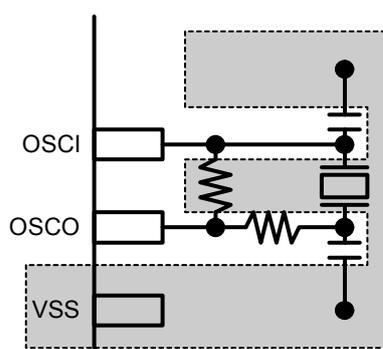

Figure 9.4 Example of oscillation circuit VSS pattern
- Shield the OSCI and OSCO pins and lines connected to those pins as well as the adjacent layers of the board using VSS. As shown in Figure 9.4, shield the wired layers as much as possible. Whenever possible, make the whole adjacent layers the ground layers, or ensure there is adequate shielding to a radius of five millimeters around the above pins and lines. Do not configure digital signal lines in parallel with components and lines even if such components and lines on other layers.